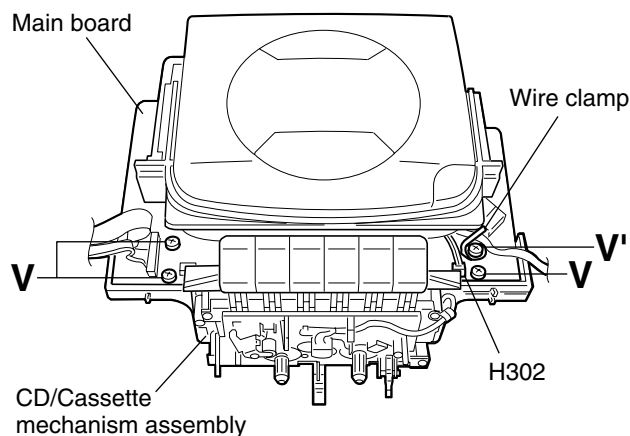

Fig.24
3. Disconnect the wire from the connector H302 on the main board. (See Fig.24.)
4. From the top side of the CD/Cassette mechanism assembly, remove the three screws **V** and screw **V'** retaining the main board. (See Fig.24.)